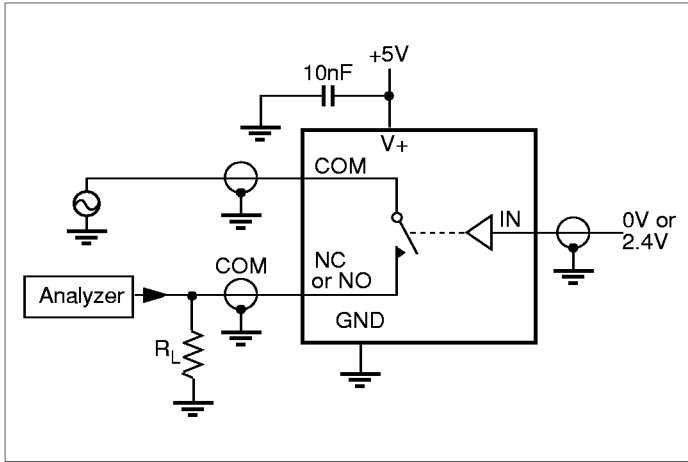

Figure 5. Off Isolation
7. Off Isolation = 20log₁₀ [V_{COM} / (V_{NC} or V_{NO})]. See figure 5.